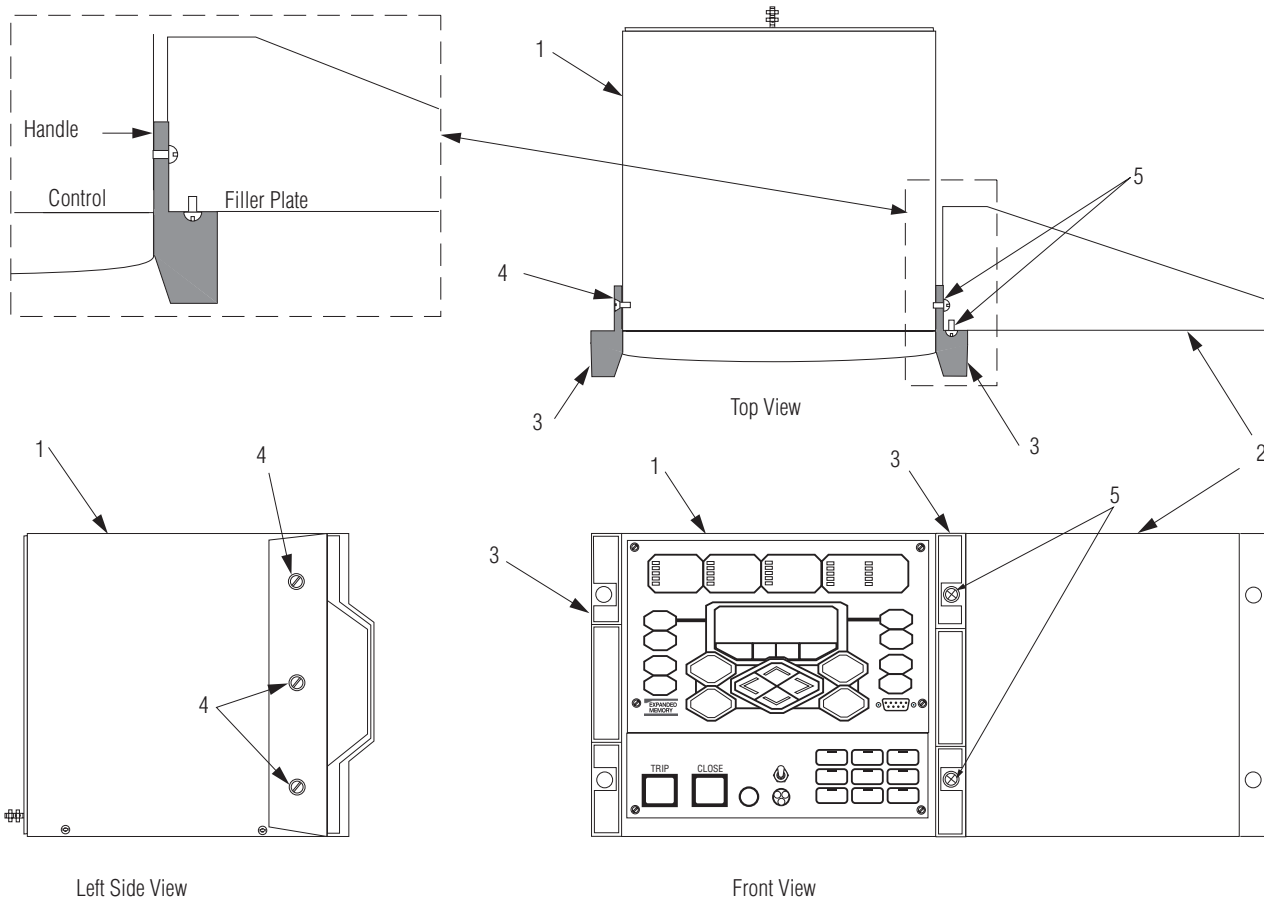

Figure 31. Form 6 double rack – single mount recloser control
These instructions apply to the attachment of two handles and one filler plate to the Form 6 Double Rack – Single Mount Recloser Control (**Figure 31**).
Table 14. Form 6 Recloser Control Single Rack Mount Handle and Filler Plate Attachment Parts List (Figure 31)
1. Orient the handles as illustrated in the left side view in **Figure 31**.
6. Attach the handle (Item 3) and filler plate (Item 2) to the control using five #10-32 Pan Head Screws (Item 5) (**Figure 31**).